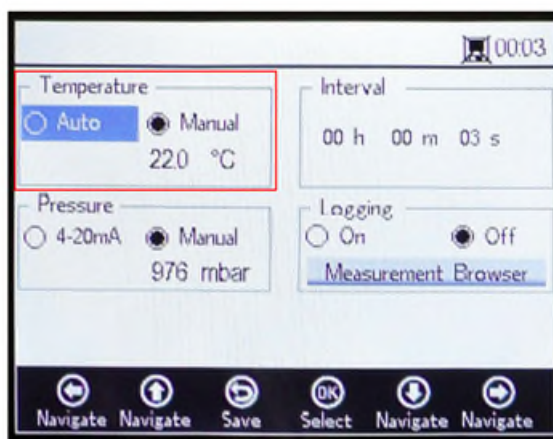

Figure 32. Measurement settings screen - Temperature compensation
On the MEASUREMENT SETTINGS screen, use the Navigation buttons to move to the Temperature box. Refer to Figure 32.
1. Change the settings to the desired unit of measurement in the lower right corner of the Temperature box. Figure 32 shows the temperature set at 22.0 °C.